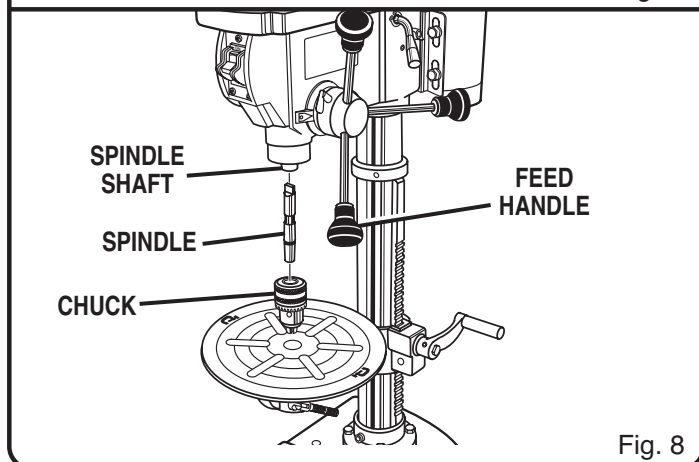

Fig. 8
- Fit the spindle into the spindle shaft turning it to the right until it slips into place. See Figure 8.